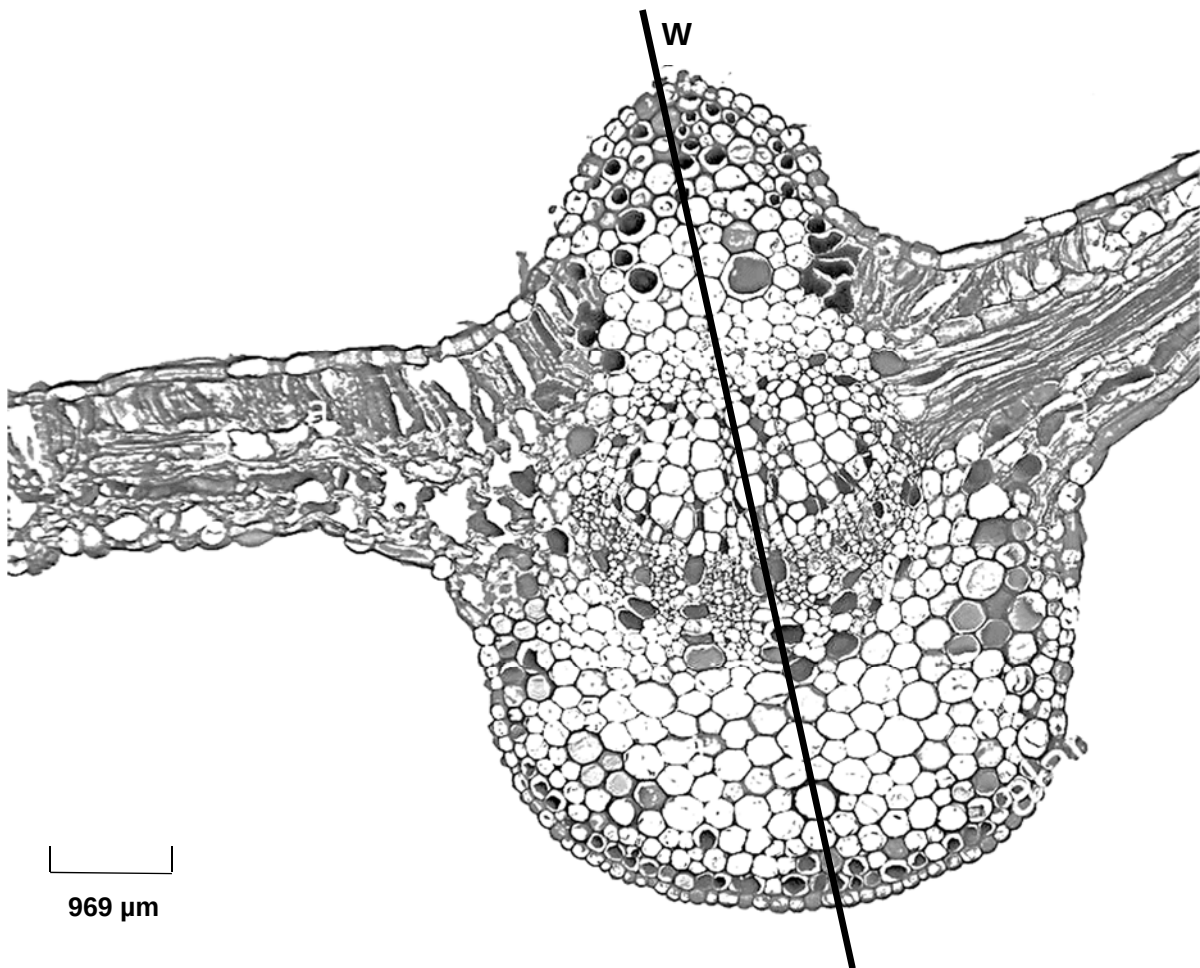
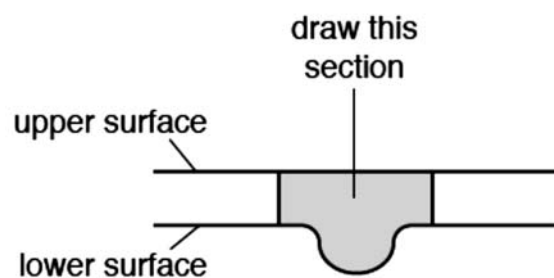

Fig. 3.1
Fig. 3.2
- 3 Fig. 3.1 is a photomicrograph of a stained transverse section through a cotton leaf.
Draw a large plan diagram of the section of the leaf in Fig. 3.1, as shown by the shaded area in Fig. 3.2, in the space provided on page 19. A plan diagram only shows the arrangement of the different types of tissues. Individual cells must **not** be drawn in plan diagrams.
- 2 only area shaded in Fig. 3.2 drawn + proportionality of tissues ;
Observe the cells in **P1** under x400 magnification and the xylem cells in Fig. 3.1 and identify two differences between them.